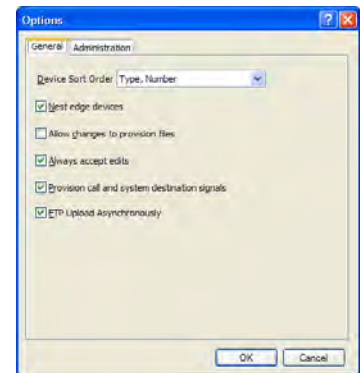

Figure A-5. VMCC Options Window
1. On the VMCC menu bar, click **Tools > Options** (A-4). The **Options** window then opens (Figure A-5).